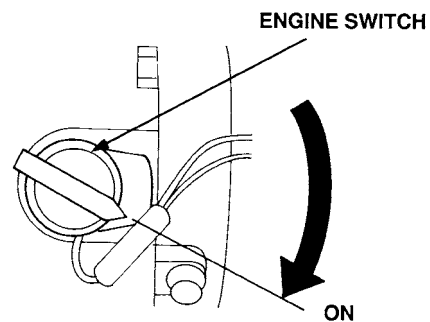

Figure 10. Engine ON/OFF Switch (ON Position)
6. Place the engine **ON/OFF** switch (Figure 10) in the **ON** position.